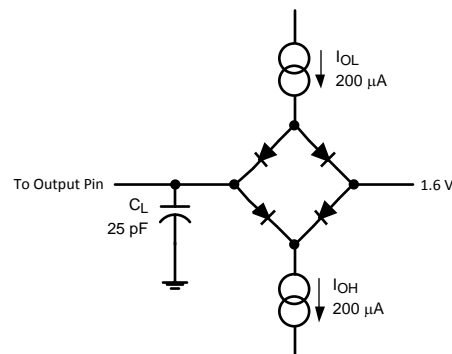

Figure 2. Timing Test Circuit
(1) Measured with the timing test circuit shown in Figure 2 and defined as the time taken by the output signal to cross 1.0V .
(2) Measured with the timing test circuit shown in Figure 2 and defined as the time taken by the output signal to cross 1.0V or 2.0V .
(3) t_{DIS} is derived from the time taken by the outputs to change by 0.5V with the timing test circuit shown in Figure 2. The measured number is then adjusted to remove the effects of charging or discharging the output capacitance. This means that t_{DIS} is the true bus relinquish time, independent of the bus loading.